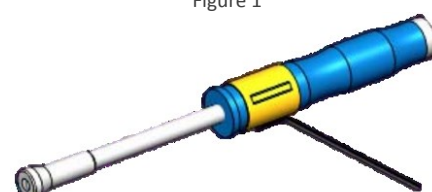

Figure 2
5. Insert the **45° guide** (ref. C5A/G45) on the impactor handle. *See Figure 2.* The 45° guide must align with the groove on the top of the rim to help orient the cup.
5. Insert the **45° guide** (ref. C5A/G45) on the **impactor handle** (ref. C13A-10). *See Figure 2.* The 45° guide must align with the groove on the top of the rim to help orient the cup.